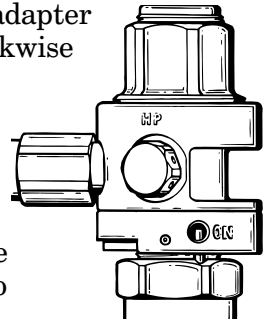

Fig. 10 - "On" Position
5. While holding the first-stage and fill adapter secure, turn the cylinder counter-clockwise until a single click is felt and the ON-OFF indicator pin can be sighted through the small aperture marked "ON" (see Fig. 10).